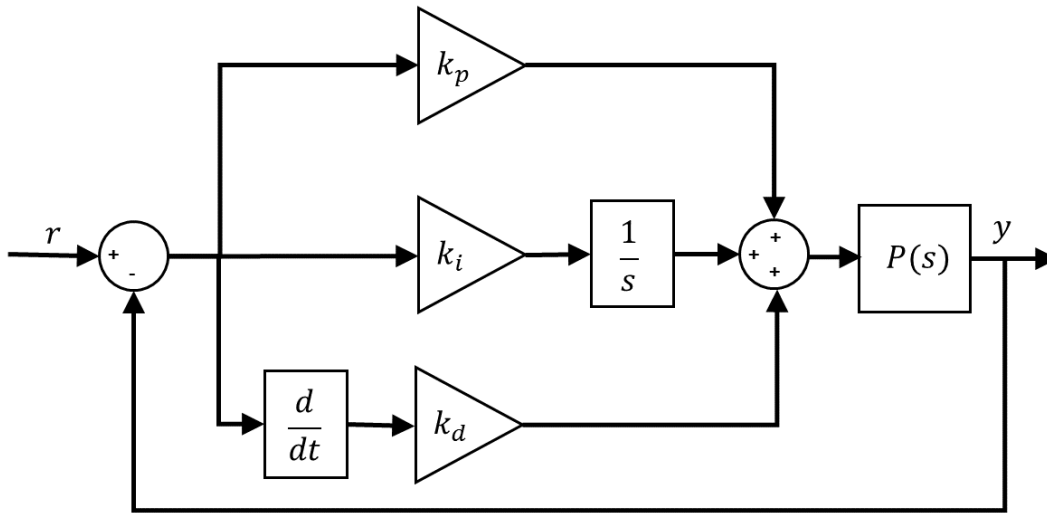

Figure 1.1: Block diagram of PID control
The corresponding block diagram is given in Figure 1.1. The control action is a sum of three terms referred to as proportional (P), integral (I) and derivative (D) control gain. The controller Equation 1.3 can also be described by the transfer function